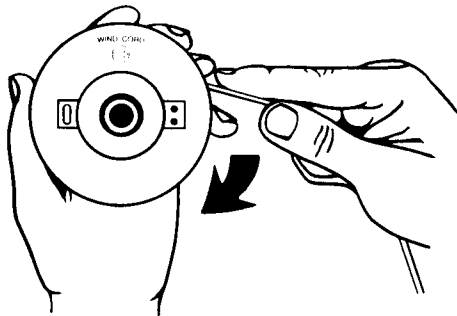

Figure 8-2C
5. Wind both ends around the spool together in a CLOCKWISE direction to within 6" of the ends. **DO NOT TWIST LINE ON SPOOL.** Twisting line could cause stringhead to feed improperly. (Figure 8-2C)